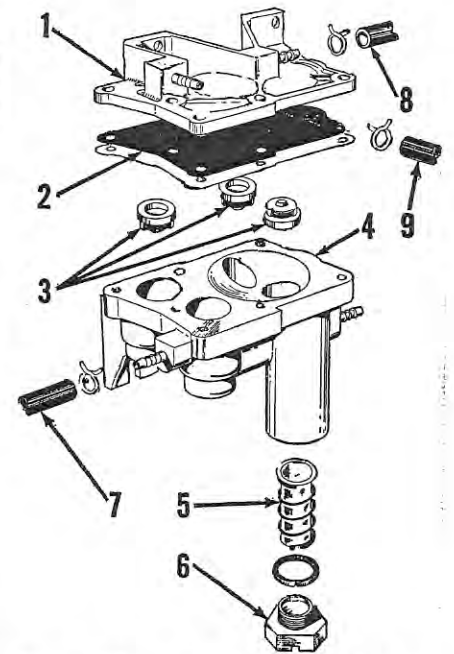

Fig. Mc113 — Exploded view of late diaphragm type fuel pump. Refer also to Fig. Mc112.
**FUEL PUMP.** All motors are equipped with a two stage, diaphragm fuel pump. Older models use a reed-type check valve between the two fuel chambers as shown at (3—Fig. Mc112). Newer pumps use three identical check valves as shown in Fig. Mc113. Pressure and vacuum pulsations in crankcases of power head are directed to rear of diaphragm as shown in Fig. Mc112. When the power head piston moves upward in its cylinder, vacuum in crankcase draws diaphragm outward as shown. When piston moves downward in cylinder, crankcase pressure forces diaphragm inward into fuel chamber. The check valves permit the fuel to flow only toward the carburetor.
Outlet pressure of the fuel line (7—Fig. Mc113) should be maintained at a minimum of  $\frac{1}{2}$  psi at idle speed and 2 psi at 3000 rpm. Fuel outlet pressure at 5000 rpm should
be maintained between the limits of 5-8 psi for two cylinder motors, or 6-9 psi for three cylinder motors. On the late motors, experience has shown that the length of the vacuum hoses is important for best performance. When renewing hoses, maintain the following recommended lengths: First stage hose (8—Fig. Mc113), 4 $\frac{3}{8}$ -5 $\frac{1}{8}$  inches on two cylinder motors; 13-13 $\frac{1}{4}$  inches on three cylinder motors. Second stage hose (9), 5 $\frac{7}{8}$ -6 $\frac{1}{2}$  on two cylinder motors; 5 $\frac{7}{8}$ -6 $\frac{1}{8}$  on three cylinder motors.